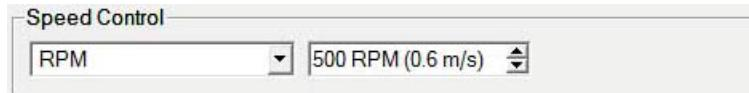

Figure 93: RPM Mode
- RPM mode, in which the vehicle maintains a constant thruster rotational velocity (see Figure 93). Next to the RPM value is an estimate of how fast the vehicle will be moving at that thruster RPM.